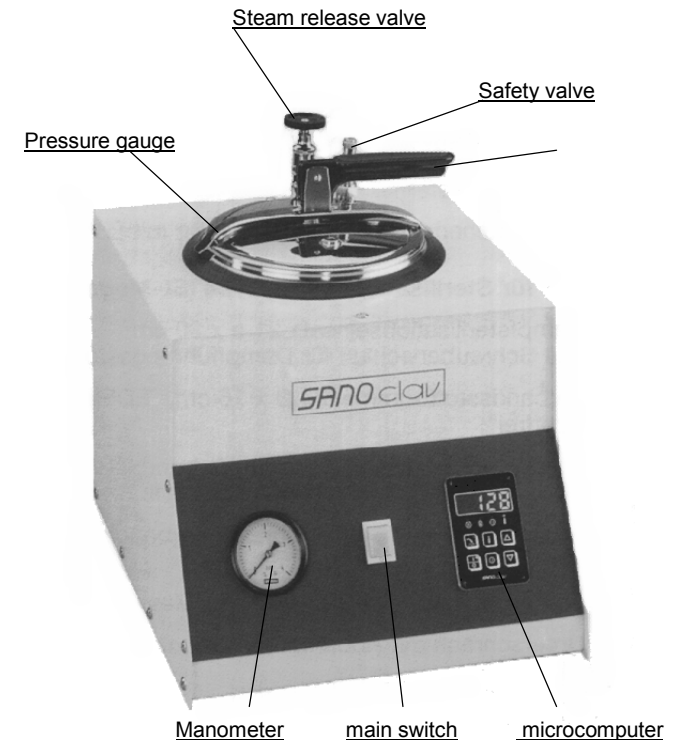

Fig. 1 TKL – Autoclave with MCS-controller
4. Setting the sterilization temperature ("C" key) and time ("D" key): Press the given setpoint key (see fig. 1) and adjust the required value with the edit keys. The actual temperature is displayed after the settings have been completed.